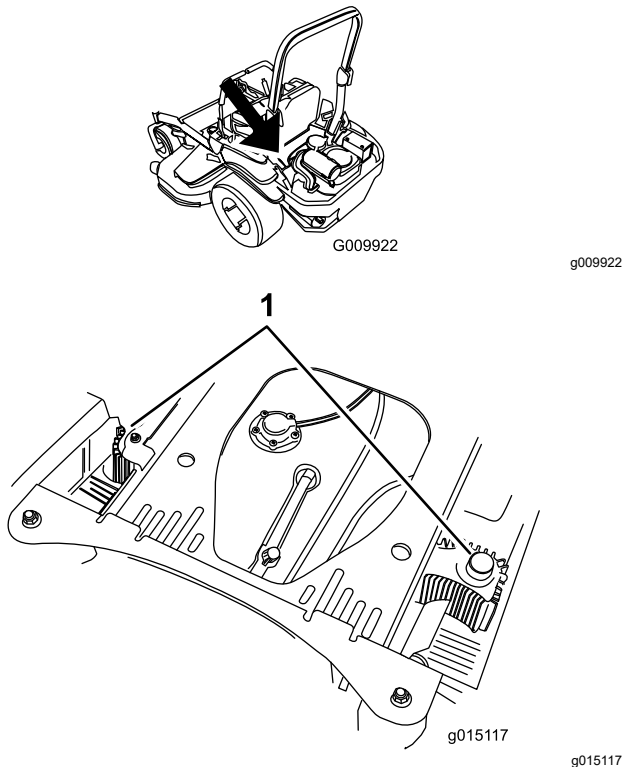

Figure 95
4. Clean the debris and grass from the hydraulic-unit shrouds (Figure 95).